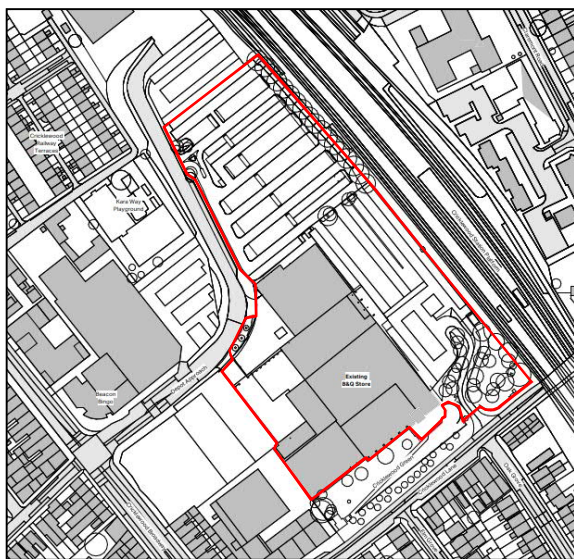

Figure 1 Site Location
The Site is located within the administrative jurisdiction of the London Borough of Barnet (LBB), adjacent to Cricklewood railway station (postcode NW2 1ES, National Grid Reference TQ 23857 85892). The Site is bounded by Kara Way and Campion Terrace to the north, national railway lines and Cricklewood railway station to the east, Cricklewood Lane to the south and Deport Approach / Cricklewood Broadway (A5) to the west. The Site area is approximately 2.78 ha. Figure 1 below shows the Site boundary.
- 1.2.1. The Site is located within the administrative jurisdiction of the London Borough of Barnet (LBB), adjacent to Cricklewood railway station (postcode NW2 1ES, National Grid Reference TQ 23857 85892). The Site is bounded by Kara Way and Campion Terrace to the north, national railway lines and Cricklewood railway station to the east, Cricklewood Lane to the south and Cricklewood Broadway (A5) to the west. The Site area is approximately 2.78 ha. Figure 1 below shows the Site boundary (see Figure 1 below).